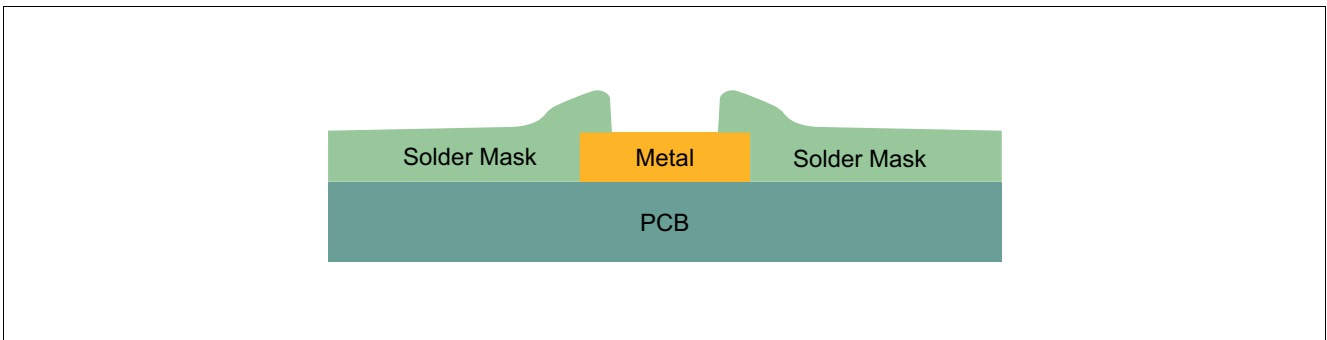

Figure 4 SMD Pad
- “Solder mask defined” (SMD) pad (Figure 4): The copper metal pad is larger than the solder mask opening above this pad. Thus the land area is defined by the opening in the solder mask.